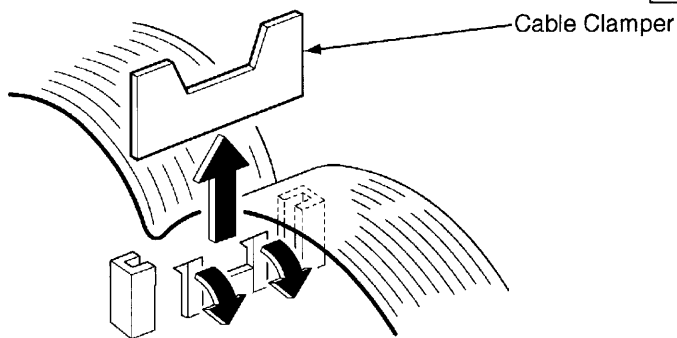

Figure-13
- Release the claws and pull off the cable clamper as shown in Figure-13.